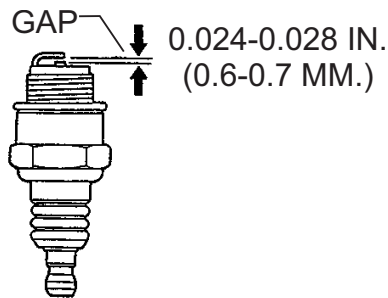

Figure 18. Spark Plug Gap
- Remove and clean the spark plug (Figure 18), then adjust the spark gap to 0.024 ~0.028 inch (0.6~0.7 mm). This unit has electronic ignition, which requires no adjustments.